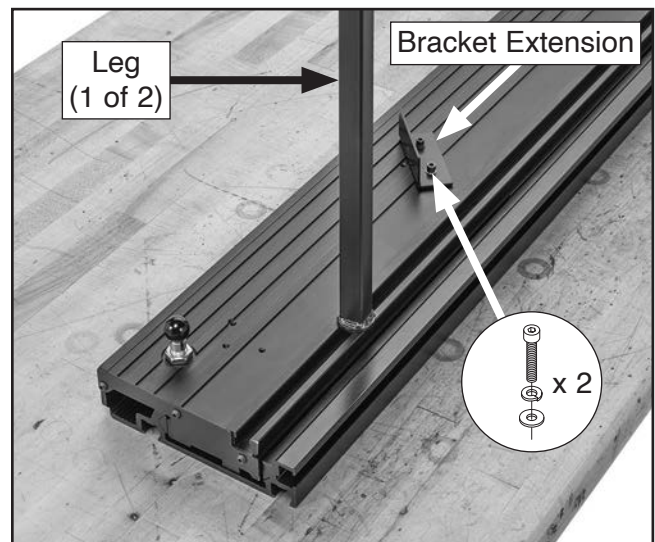

Figure 8. Legs and ON/OFF switch extension installed on sliding table base (L-bracket shown).
13. Use square head bolts pre-installed in (2) legs to install one leg at each end of T-slot in base of sliding table (see **Figure 8**).
14. **G1023RL-Series Only:** Install ON/OFF switch L-bracket extension (see **Figure 8**) on table base using (2) M6-1 x 16 cap screws, 6mm lock washers, 6mm flat washers.
15. **G0899 Only:** Install ON/OFF switch C-bracket extension (see **Figure 8**) on table base using (2) M6-1 x 16 cap screws, 6mm lock washers, 6mm flat washers.